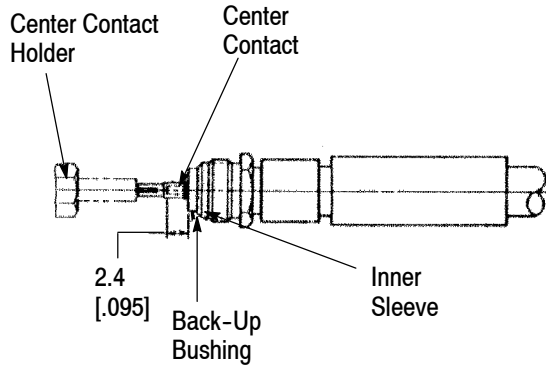

Figure 5
3.3. Soldering the Center Contact to the Cable Inner Conductor (Figure 5)
3. Trim and de-burr the inner conductor projection to length, as shown in Figure 5.